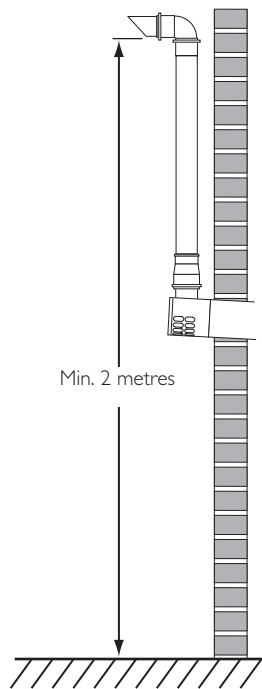

Fig. 19
2. When completed the terminal must be at least 2 metres above ground level (Fig. 19).